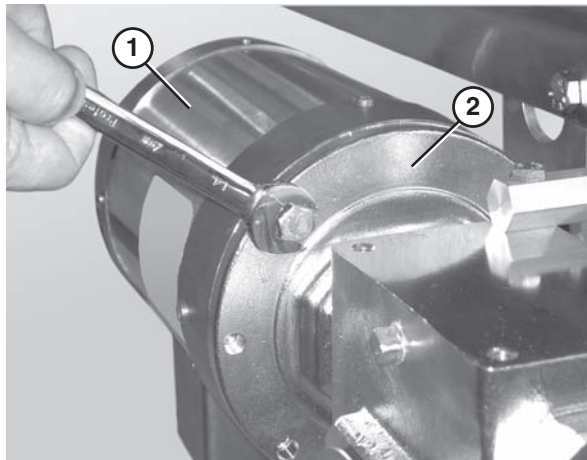

Figure 52
- Remove the bolts that connect the motor to the drive assembly (**Figure 52**).
- Remove the motor (**Figure 52, item 1**) from the drive assembly (**Figure 52, item 2**).